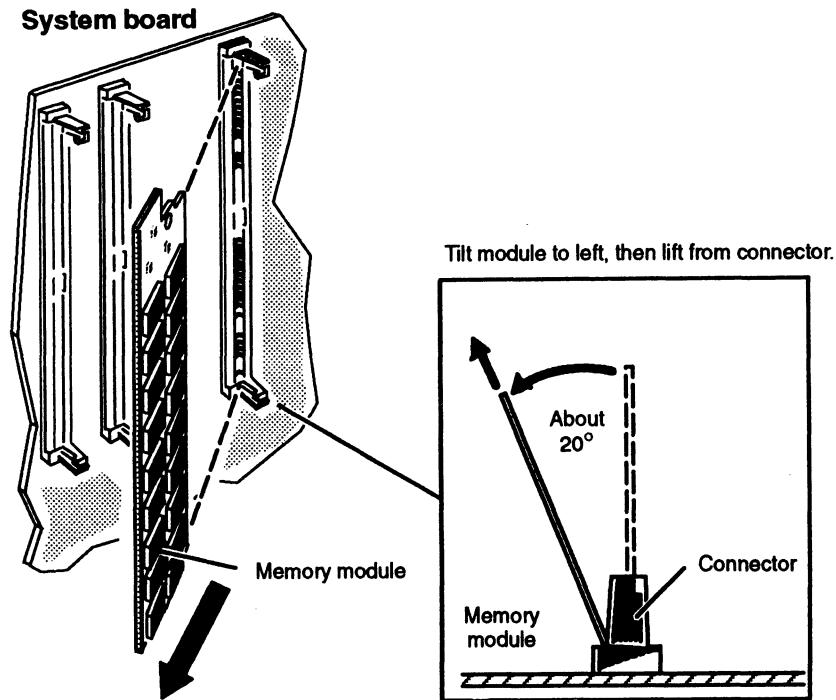

Figure 7-6 Removing a Memory Module
2. With the locking tabs released, raise the memory module to about a  $20^{\circ}$  –  $30^{\circ}$  angle as shown in Figure 7-6 , then *gently* pull the module from its connector.